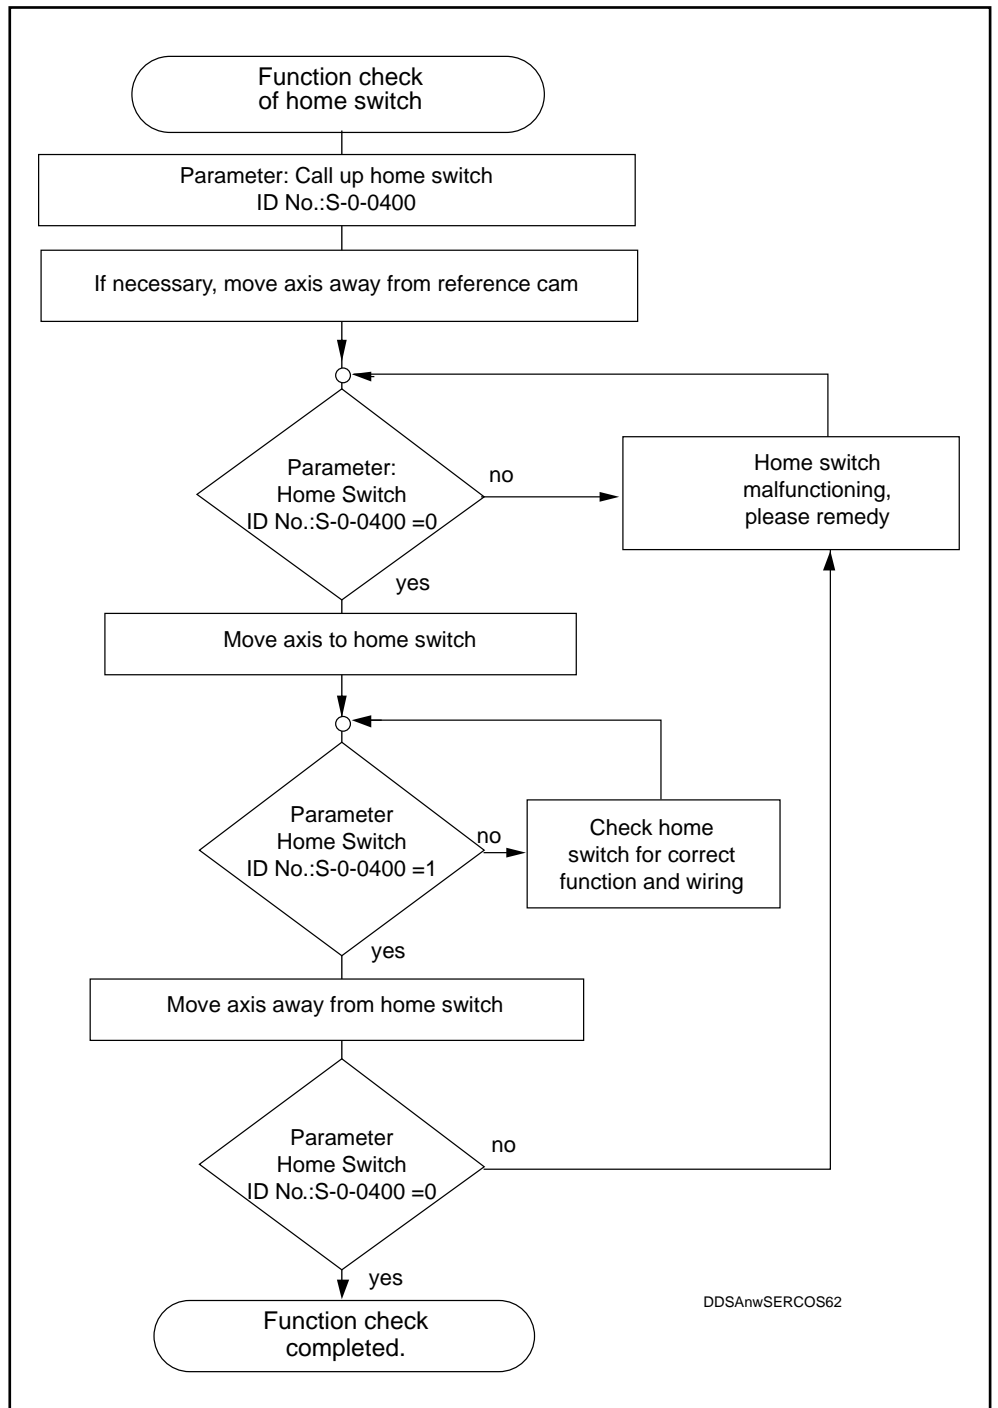

Fig. 7.51: Home switch function check
- Before attempting any homing cycle check that the home switch is functioning correctly. Proceed according to the flow chart in Fig. 7.51.